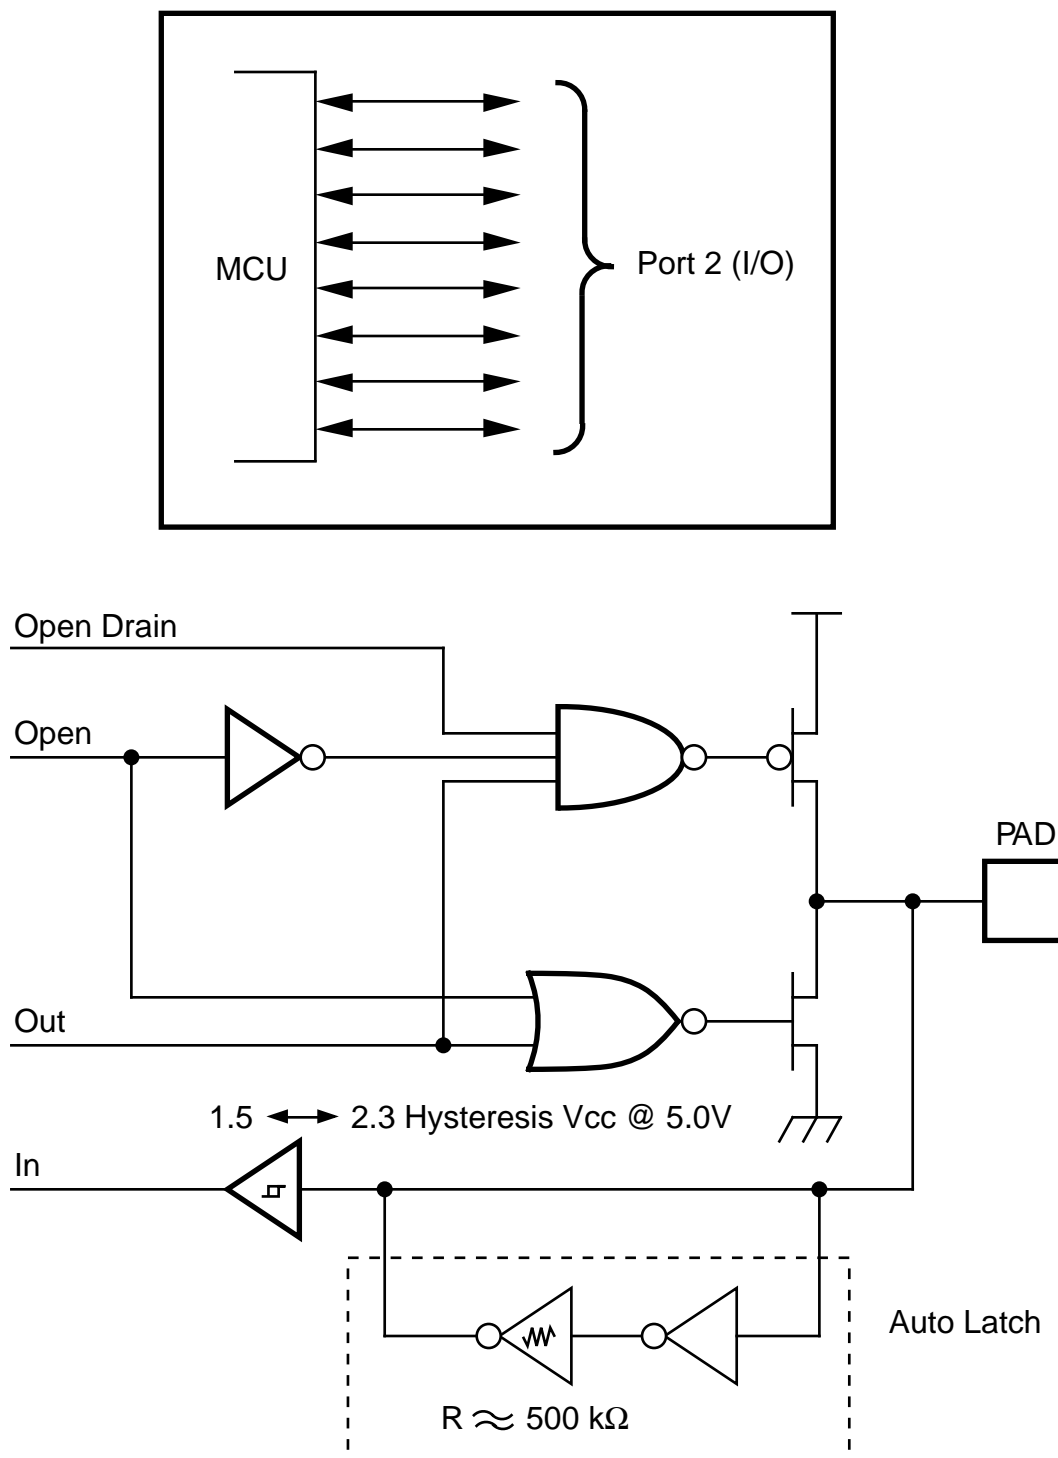

Figure 7. Port 2 Configuration
**Port 0** (P02-P00). Port 0 is a 3-bit I/O, bidirectional, Schmitt-triggered CMOS compatible I/O port. These three I/O lines can be configured under software control to be all inputs or all outputs (Figure 7).